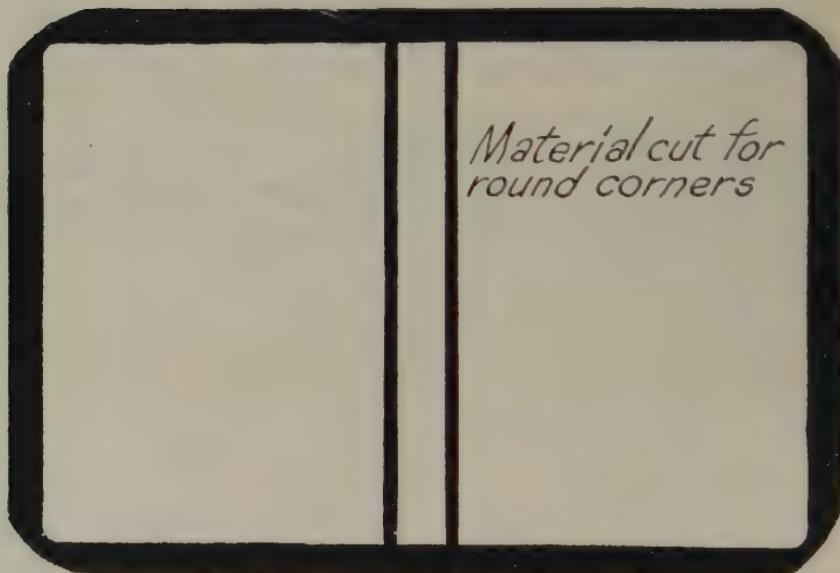

FIG. 89—BOARDS AND COVERING MATERIAL CUT FOR ROUND-CORNERED COVER
8. Cut your round corner material like Fig. 89, Page 204.